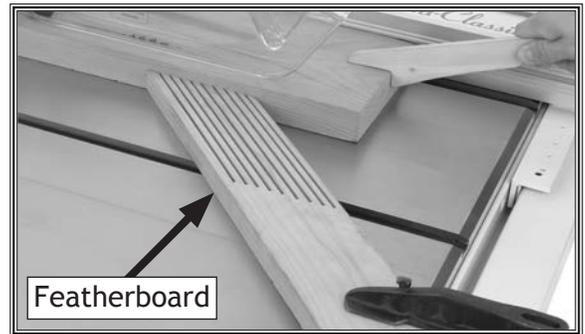

Figure 58. Typical ripping operation.
8. Set up safety devices such as featherboards (see **Figure 58**) or other anti-kickback devices, making sure no safety devices are contacting blade.